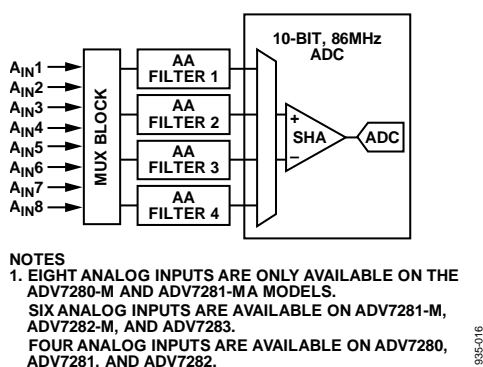

Figure 17. Antialias Filter Configuration
The ADV728x has optional on-chip antialiasing (AA) filters on each of the four channels that are multiplexed to the ADC (see Figure 17).